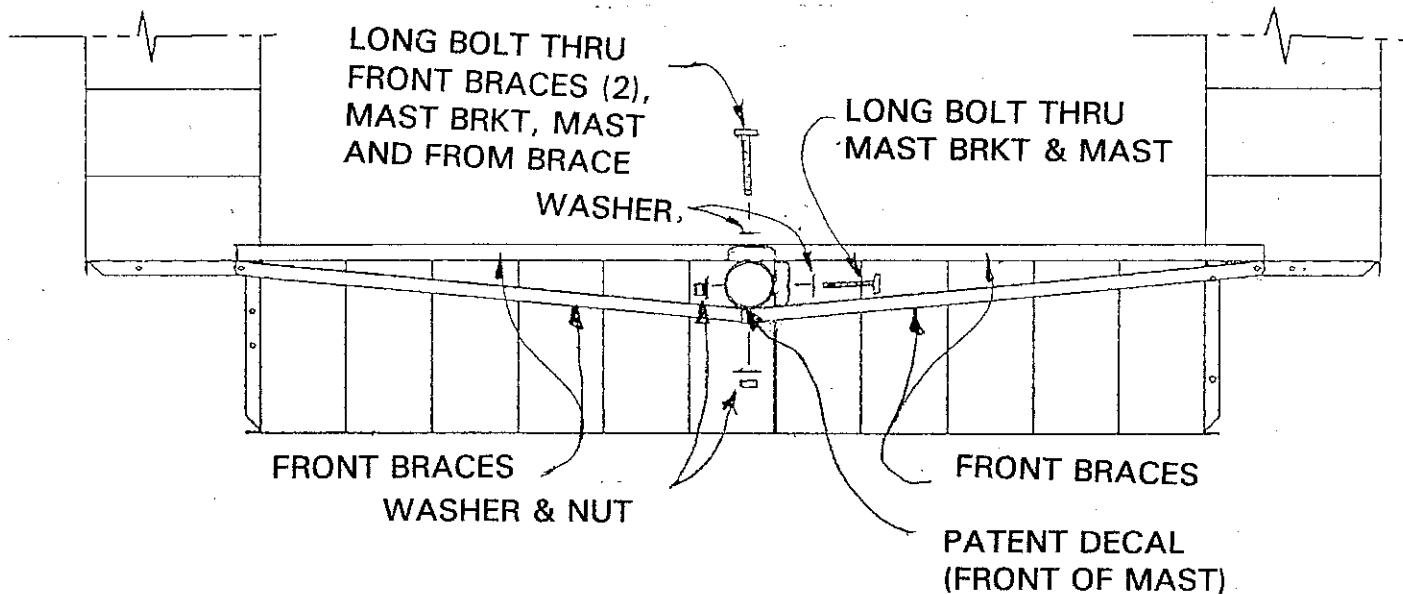

FIGURE 2.1-5
- STEP 7:** Position the mast (item# 3) so that the patent decal on the mast faces front. Assemble the mast pipe to the mast bracket using one 3/8-5.00" bolt, two flatwashers, one lockwasher, and one hex nut (items# 11,12,14,15) through the side of the mast pipe as shown in figure 2.1-5.
- STEP 8:** Bolt one end of two of the front braces (item# 4) to the front of the mast pipe with another 5.00" long bolt and 3/8" hardware. Attach the other end to the corner brackets with a 1.00" long bolt, and 3/8" hardware in each end. See Figure 2.1-5.